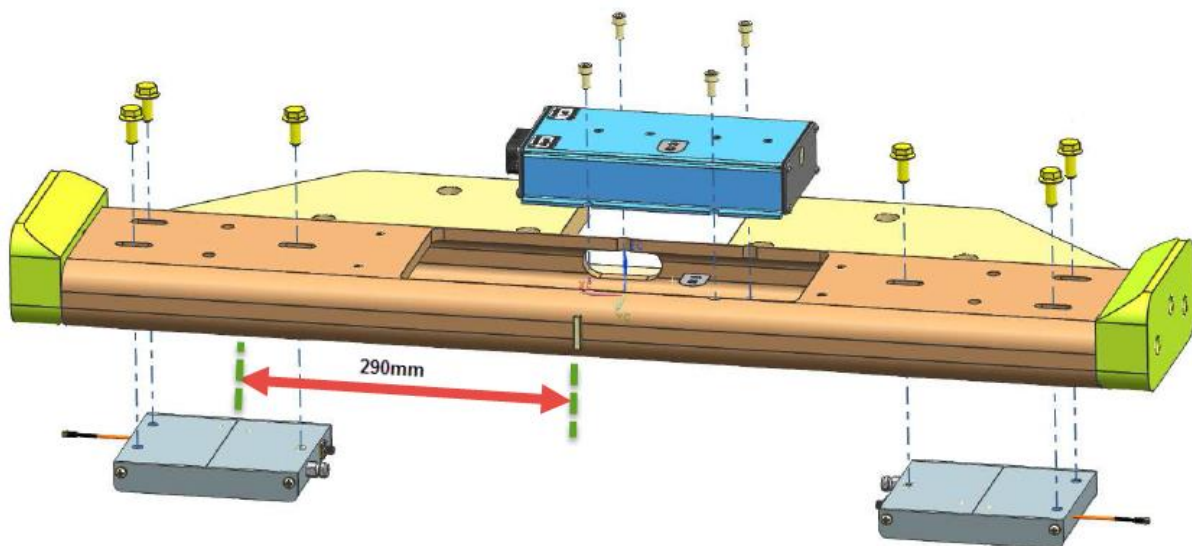

Figure 1 - Bumper Assembly
- Secure the antennas ensuring that the measuring groove located on the top of the antenna is **290mm** [Figure 1] from the center of the bumper